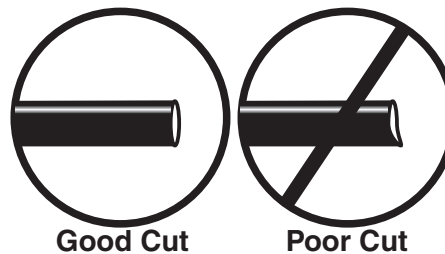

fig. 24
WHEN CUTTING OR TRIMMING THE AIR LINE, USE A HOSE CUTTER, A RAZOR BLADE, OR A SHARP KNIFE. A CLEAN, SQUARE CUT WILL ENSURE AGAINST LEAKS. DO NOT USE WIRE CUTTERS OR SCISSORS TO CUT THE AIR LINE. THESE TOOLS MAY FLATTEN OR CRIMP THE AIR LINE CAUSING IT TO LEAK AROUND THE O-RING SEAL INSIDE THE ELBOW FITTING (FIG. 24).
- a. Check the air line connection by deflating the spring and removing the line by pulling the collar against the fitting and pulling firmly on the air line. Trim 1" off the end of the air line. Be sure the cut is clean and square (see fig. 24). Reinsert the air line into the push-to-connect fitting.